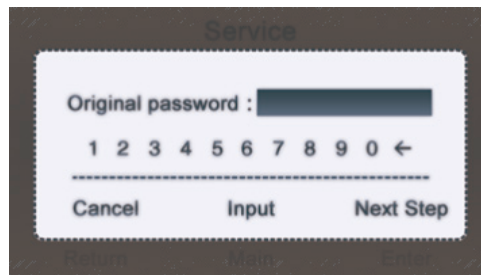

Figure 8
B. Press the "Upward"key or "Downward"key to select "Password" and press "Enter"key to initiate password setting, which is shown in Figure 8. Password setting is intended for changing only the password of a common user.
C. Press the "Leftward"key and "Rightward"key to select in the line of numbers; press the "Input"key to fix the selected numbers in the password box. When password entry is completed, press the right key to proceed with "Next step" If the original password is input incorrectly, a window prompting "Wrong password" will pop out as shown in Figure 9. Press "Enter" or "Cancel" in this window to return to the figure 8.